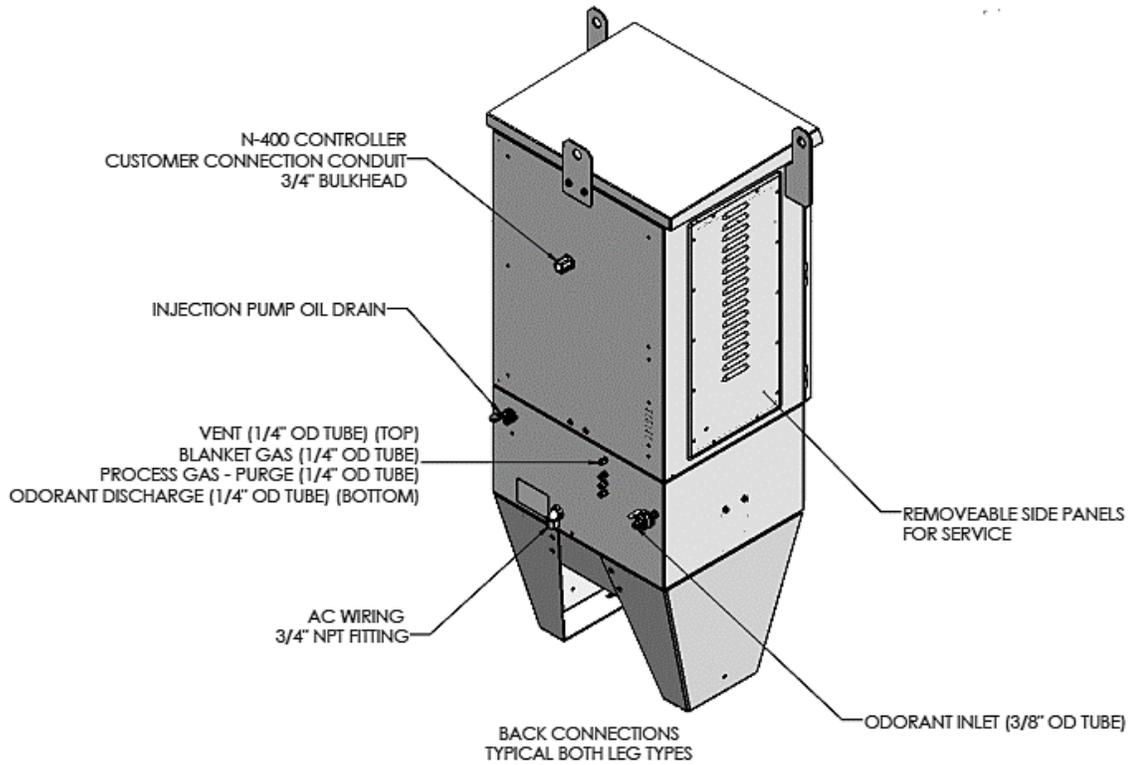

Figure 8 Class 1, Division 1 North American Cabinet Connections
1. Connect the odorant supply source to the odorant inlet bulkhead with the recommended 3/8" stainless steel tubing (Figure 8 & 9). The 3/8" inlet tubing size is standard across all NJEX ZEO models. A tank isolation valve (V15) should be incorporated between the storage tank and this connection.